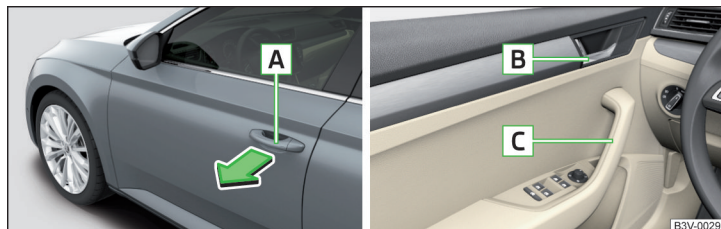

Fig. 34 Door handle/door opening lever
- To **open from outside**, unlock the vehicle and pull the door handle **A** in the direction of arrow » Fig. 34.